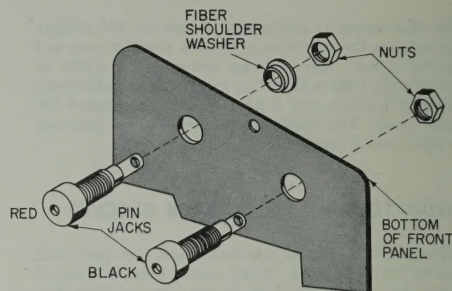

FIGURE 4. HOW TO MOUNT THE PIN JACKS
- ☐ Mount a black pin jack through the hole marked GROUND on the front panel. As shown in Figure 4, fasten this jack with a medium size nut on the back of the front panel.
- ☐ Mount a red pin jack in the hole marked OUTPUT on the front panel. As shown in Figure 4, use a fiber shoulder washer to insulate the jack from the front panel.